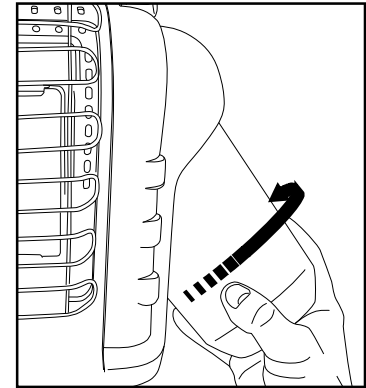

Figure 2: Attach fuel tank
- Swivel regulator outward for easy tank installation. Screw 1 lb. disposable LP-gas supply cylinder clockwise (from bottom) into portable heater until hand-tight; see Figure 2. DO NOT use thread sealant on this connection.